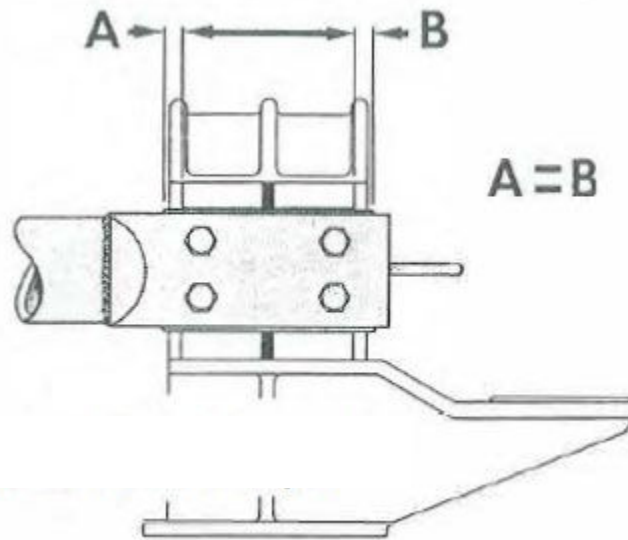

**Figure 10: Blade Tips hit both stops "A" and "B" simultaneously**
2.1.1. The blade tips must hit the stops in the jaws simultaneously. See **Figure 10**. Misalignments can be corrected by tilting the jaw insulator stacks with the jack screws.
- 4.6. The Mounting Positions and Proper Blade Openings are shown in **Figure 10**